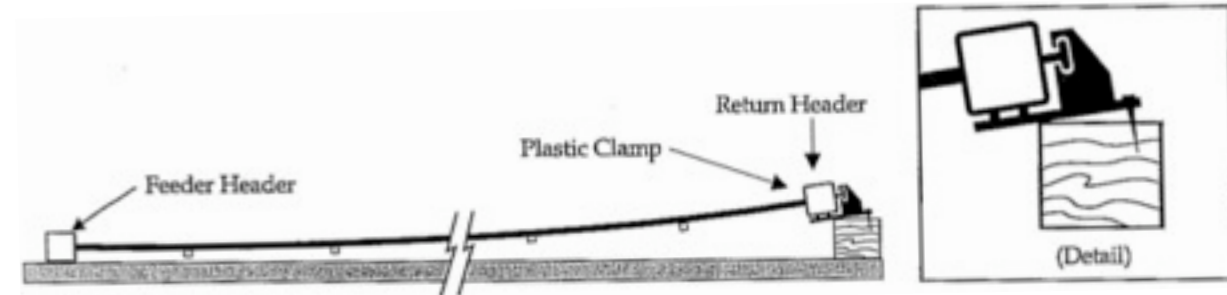

FIG. 8.1
2. Place a 43" section of pressure treated 4x4 on the flat roof at the location of each return header (see Fig. 8.1). Leave a 4" gap between each 43" section to allow water to drain through. Secure the 4x4 to the roof with a good quality liquid adhesive.